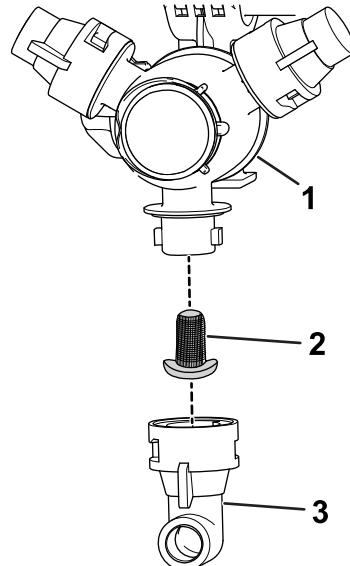

Figure 149
2. Remove the nozzle from the spray turret (Figure 149).
3. Remove the old nozzle filter (Figure 149).
4. Install the new nozzle filter (Figure 149).
5. Install the nozzle onto the spray turret (Figure 149).